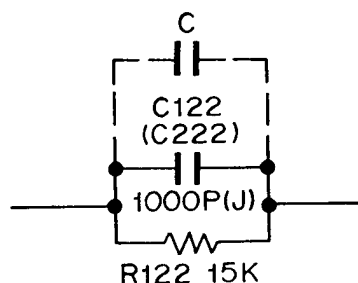

Fig. 7.13
(1) For ZX Tape
- Feed in 10 kHz and 400 Hz (−20 dB) then record and play it back. Check the difference of the levels between 10 kHz and 400 Hz, and mount an additional capacitor in parallel with the C122 (C222) from the dip side of the printed circuit board depending upon the difference of the levels against 400 Hz. Refer to Fig. 7.13.